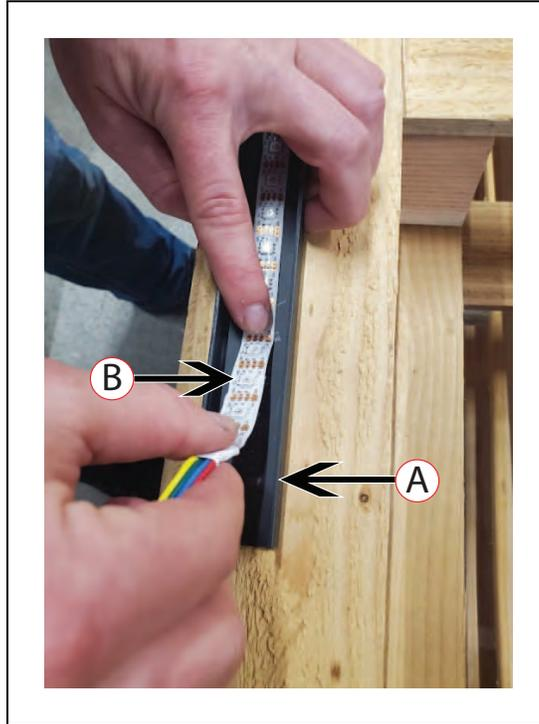

Figure 8-36. Peeling the LED Strip off the Holding Bracket, (A) Holding Bracket, and (B) LED Strip
3. Remove the holding bracket ((A) in Figure 8-36.) by unscrewing the four screws.